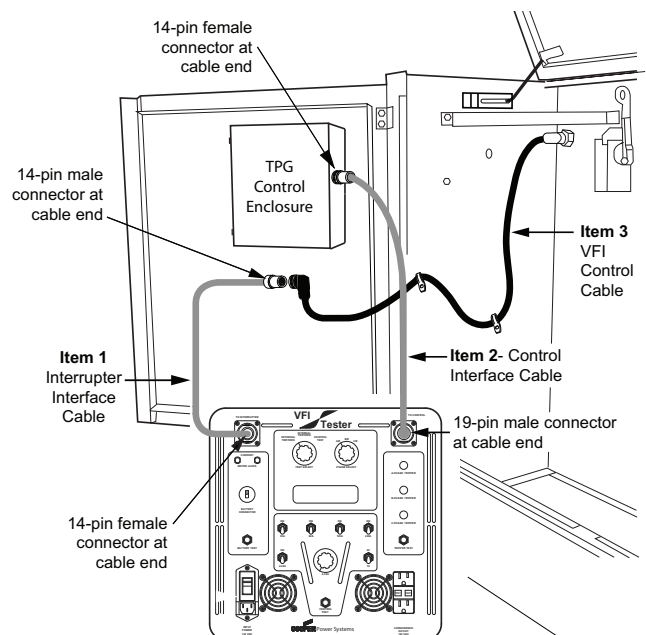

Figure 3. Connection of the VFI tester to side-hinged VFI units with TPG controls.
3. Disconnect the 14-pin female connector end of the tester control interface cable (Item 2) from the TPG control enclosure. Refer to Figure 3 for steps 3 through 8.
- Depress all three internal flux-shift trippers. Refer to Figure 3 for steps 1 through 8.